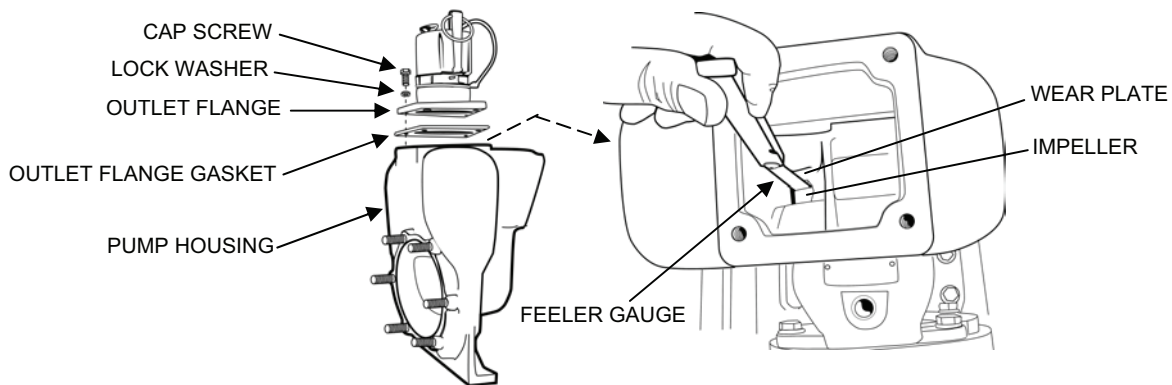

Figure 11. P2 Pump Impeller Clearance Adjustment.
3. Set the gap between the impeller and the pump wear plate as follows (see Figure 11):